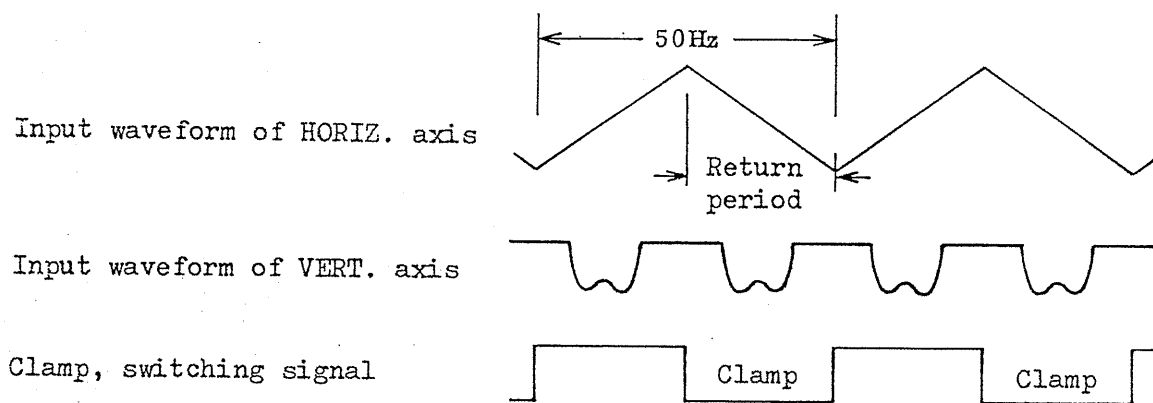

Fig. 3-5
- (2) When the sweep frequency is 50 Hz and the sweeps are without return periods, although the CH1, CH2 and ALT operations are possible as shown in Fig. 3-5, the clamp function is ineffective as there exist signals during periods in which the clamp function is to be effected. Therefore, stop the sweep generator output for the return periods.